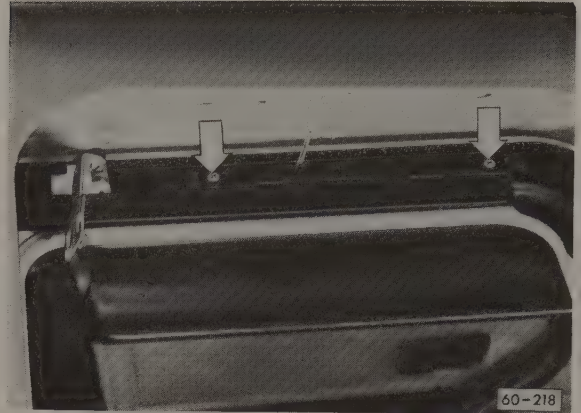

Fig. 7-10. Guide rail cover screws (arrows) to be removed.
3. Remove the left and right rail cover screws and remove the covers. See Fig. 7-10. Remove the front guides.